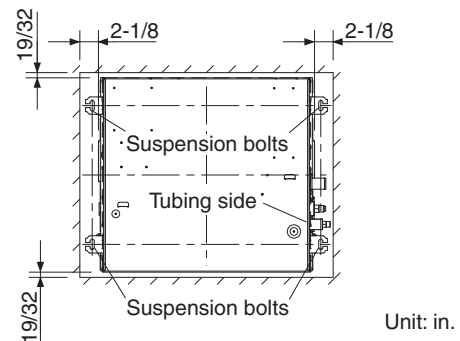

Fig. 3-60
- (6) The distance between the unit and the opening of the ceiling and the distance between the bottom surface of the ceiling and the bottom surface of the flange of the unit should follow the dimensions given in Figs. 3-60 and 3-61.